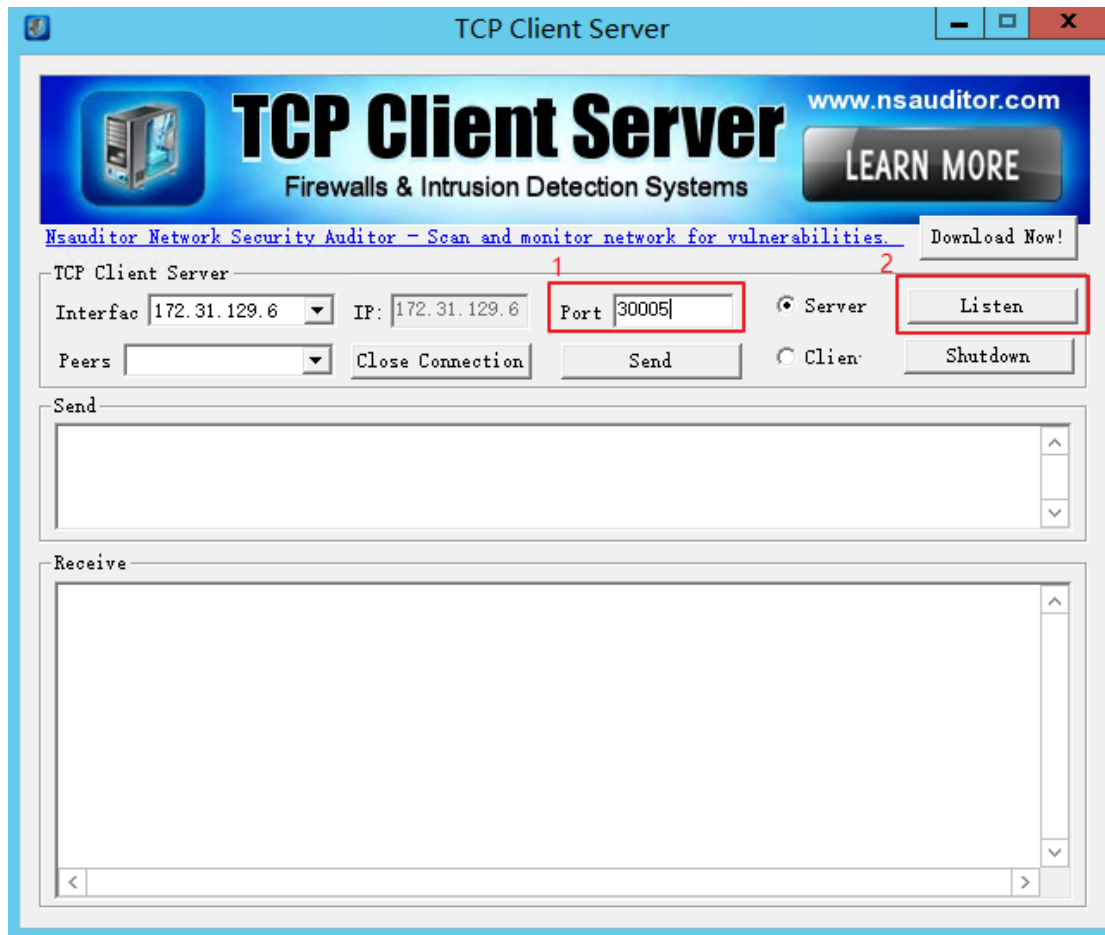

Figure 5-6 TCP Example 1
Step 2: Launch **TCP Client Server** to create a server. Use the PC as the center. Enter the TCP port number of the PC in **Port** and click **Listen**, as shown in Figure 5-6.